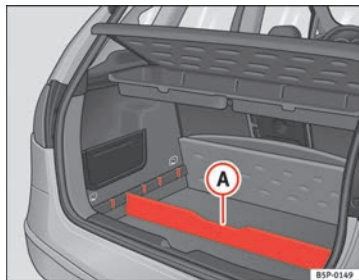

Fig. 107 Luggage compartment divider
- Fit the separator **A** ⇒ fig. 107, into the side grooves depending on the size of the objects to be transported. The onboard tool kit and the spare wheel are located underneath the luggage compartment.